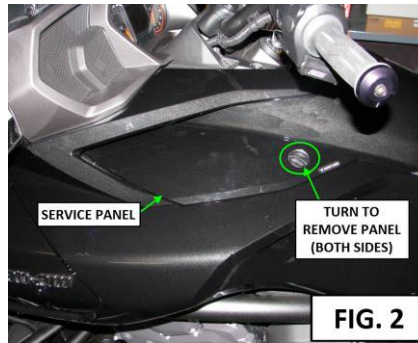

FIG. 2
2. REMOVE THE TWO TOP SERVICE PANELS SHOWN IN FIG. 2.